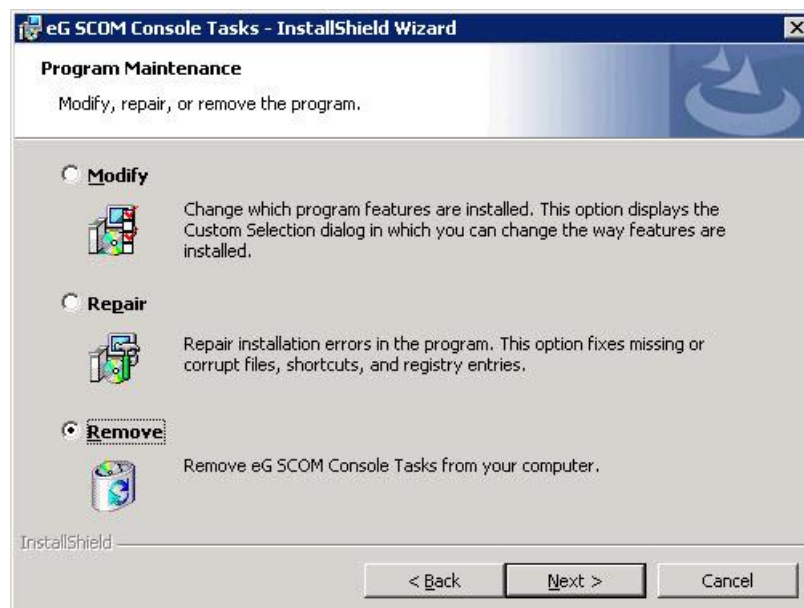

Figure 4.9: Selecting the Remove option
5. When Figure 4.9 appears, select the **Remove** option to begin the uninstallation. Then, click the **Next** button therein to proceed.